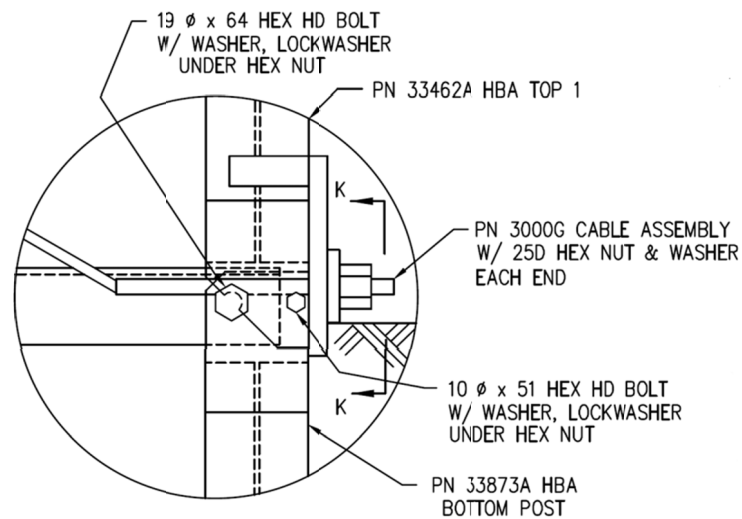

Figure 7
1. Slide one end of the Cable Assembly (PN 3000G) into the Cable Anchor Bracket (PN 704A) and the other end through the space between the HBA Top Post 1 (PN 33462A) and HBA Bottom Post 1 (PN 33873A) (see Figure 7).
3. Place the Bearing Plate (PN 19258A) [125 mm dimension up and the 76 mm dimension down] in front of the HBA Top Post 1 (PN 33462A) and HBA Bottom Post 1 (PN 33873A) (see Figures 7 and 8).
4. Slide the other end of the Cable Assembly (PN 3000G) through the hole in the Bearing Plate (PN 19258A) (see Figure 7).